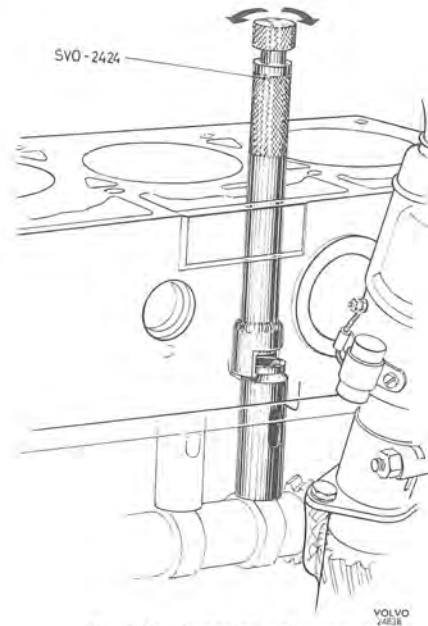

Fig. 2-20. Removing valve tappet
3. Remove the alternator, water pump, distributor, rocker arm casing, rocker arms and oil filter. Remove the manifolds with carburetors. Take off the cylinder head. Remove the valve tappets with tool SVO 2424, see Fig. 2-20.